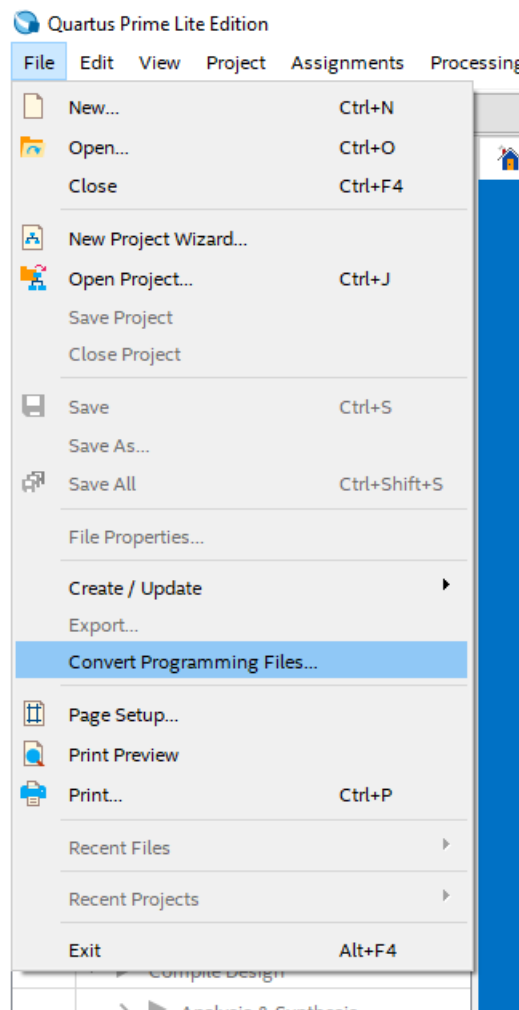

Figure 1: Convert SOF to JIC - Step 1
1. Open 'Quartus Prime 16.1 Lite Edition' from the desktop icon. Select File->Convert Programming Files, as shown in Figure 1. The Convert programming file window will now open.